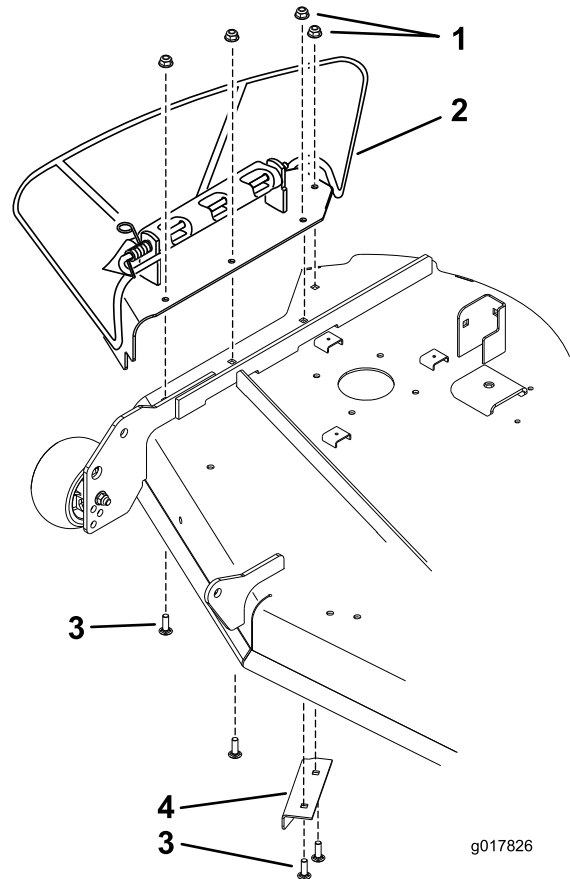

Figure 19
- Remove the plate assembly that includes the side discharge chute (Figure 19). Save this hardware and assembly.
- Remove the existing baffle under the right side of the mower deck (Figure 19). Save the baffle and hardware.